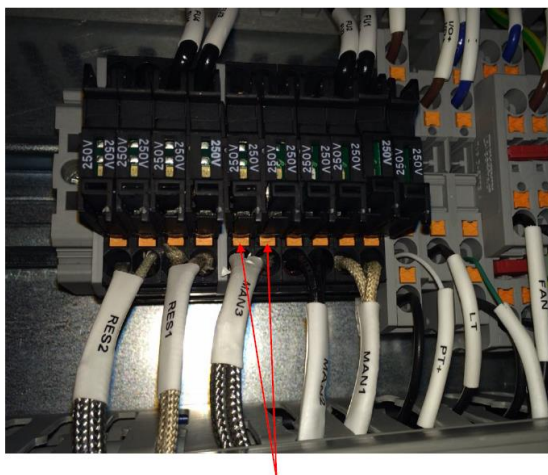

Figure 42: Heater resistance values
- To remove wires, use a flathead screwdriver to push the orange buttons as shown in Figure 42. Pull the wires at the same time.